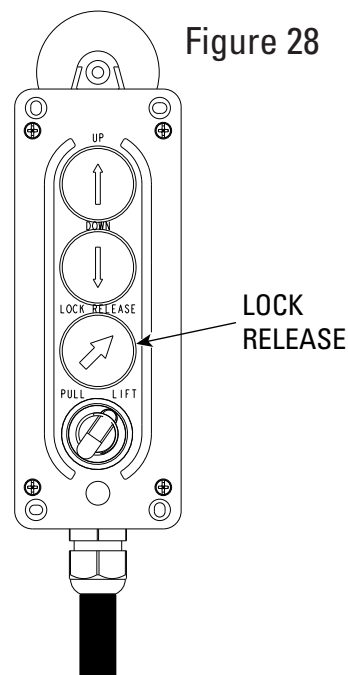

Figure 28
5. Activate lock arm release by depressing and holding the "LOCK RELEASE" button on the pendant, Figure 28.